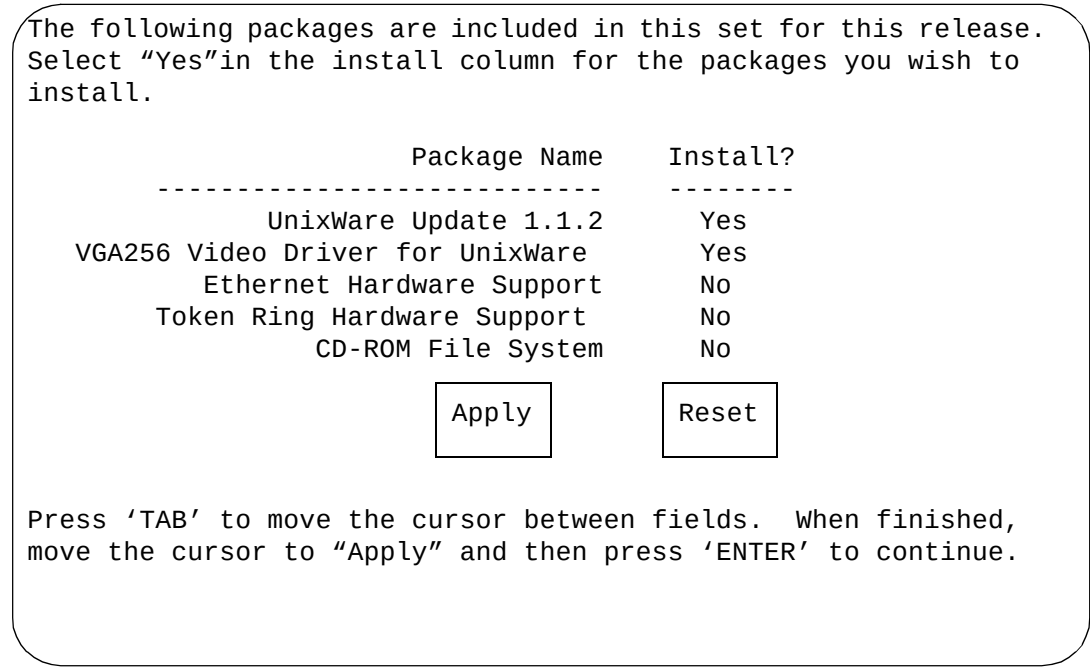

Figure 9-25. Verification Screen
- The system displays another verification screen (Figure 9-25).
21. Select the packages as shown in Figure 9-25.